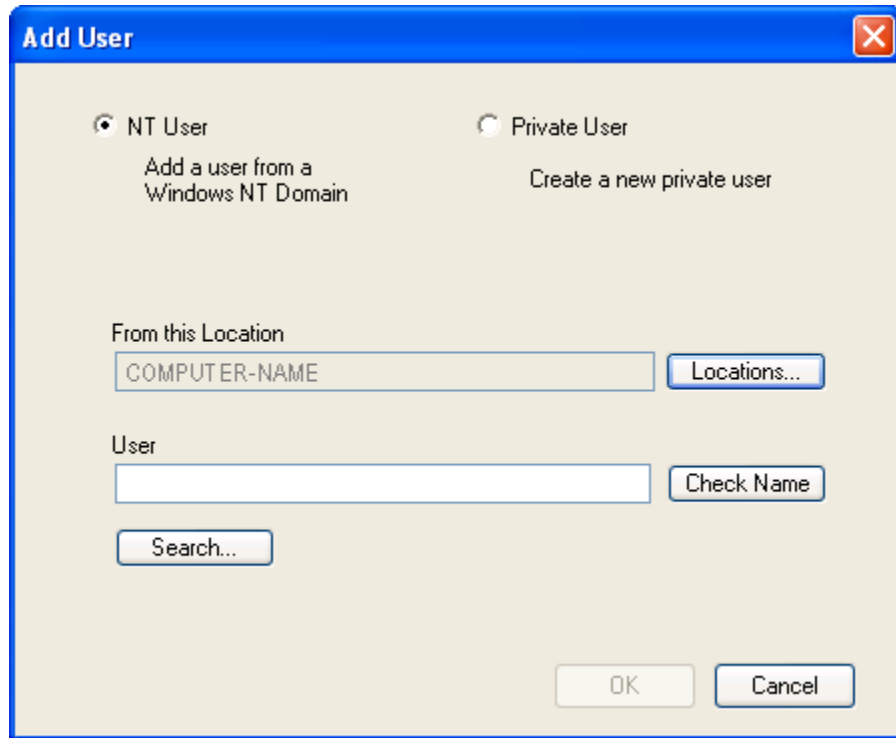

Figure 44 - Add User Window (NT)
2. The **Add User** window (Figure 44) appears. The **NT User** option button is selected by default. This will allow the addition of a user from a Windows NT Domain.
2. The **Add User** window (Figure 44) appears.